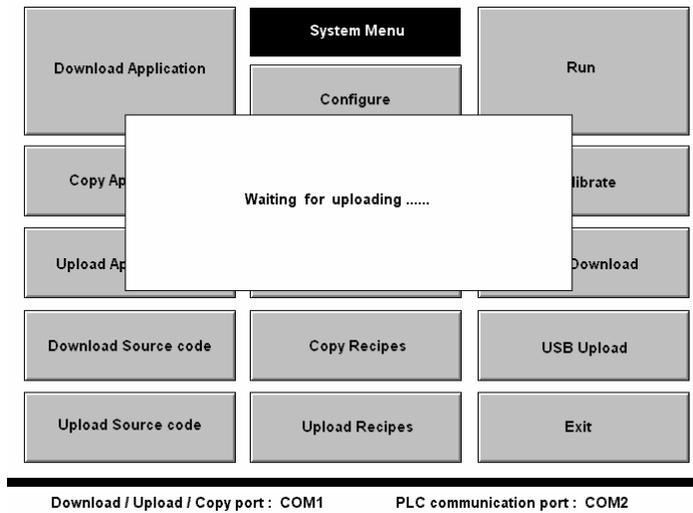

Figure D-34: the screen of “waiting for Uploading”
2. Be sure DIP-SW No 7 is " on" then turn on the power on HMI and press the "USB Upload" button on system menu. The PWS3261 displays "waiting for Uploading" and is ready to receive a upload. See Figure D-34.